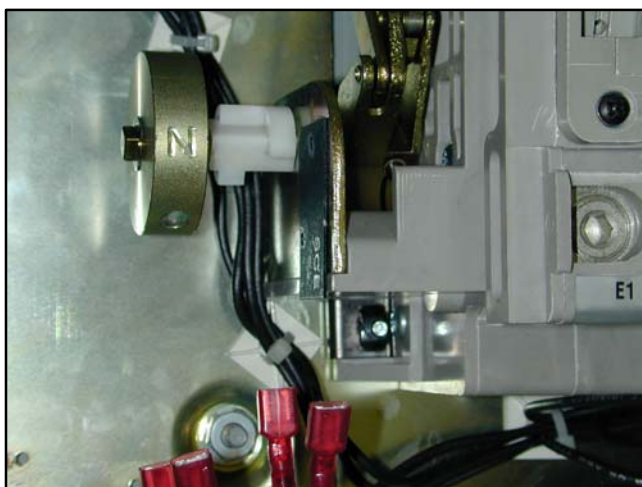

Figure 7-45 Microswitch Fast-On Connectors
6. Disconnect the fast-on connectors. See Figure 7-45.